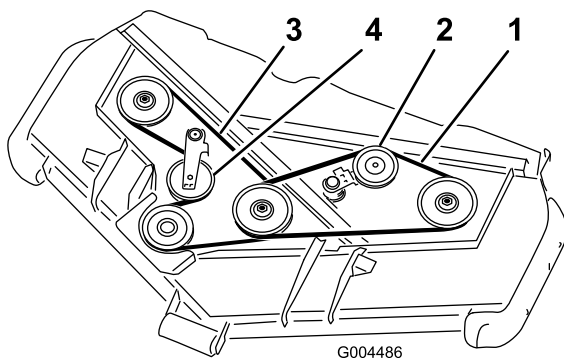

Figure 78
3. Using a breaker bar or similar tool, move the idler pulley for the top belt (Figure 78) away from the top
4. Using a breaker bar or similar tool, move the idler pulley for the bottom belt (Figure 78) away from the bottom drive belt to release the belt tension and allow the belt to be slipped off the pulleys.
5. Route a new belt around the gearbox pulley, bottom spindle pulleys, and idler pulley assembly as shown in Figure 78.
6. Route a new belt around the top spindle pulleys and idler pulley assembly as shown in Figure 78.